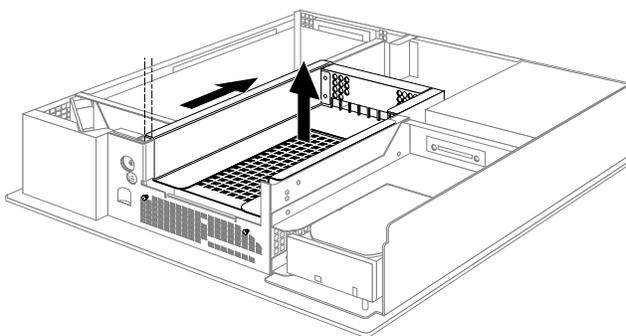

Figure 6 Removing the 5-1/4" drive tray from the Indigo² chassis.
- Push the drive tray backward, and pull up to remove the tray, as shown in Figure 6.